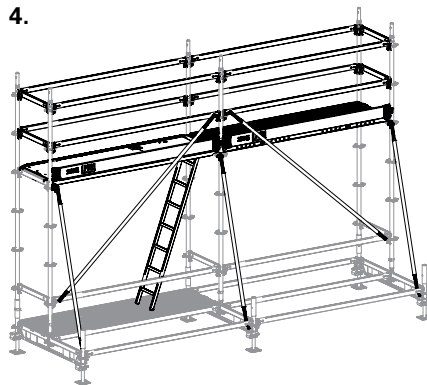

Fig. A4.04a
- Node Brace UBK (Fig. A4.04a)